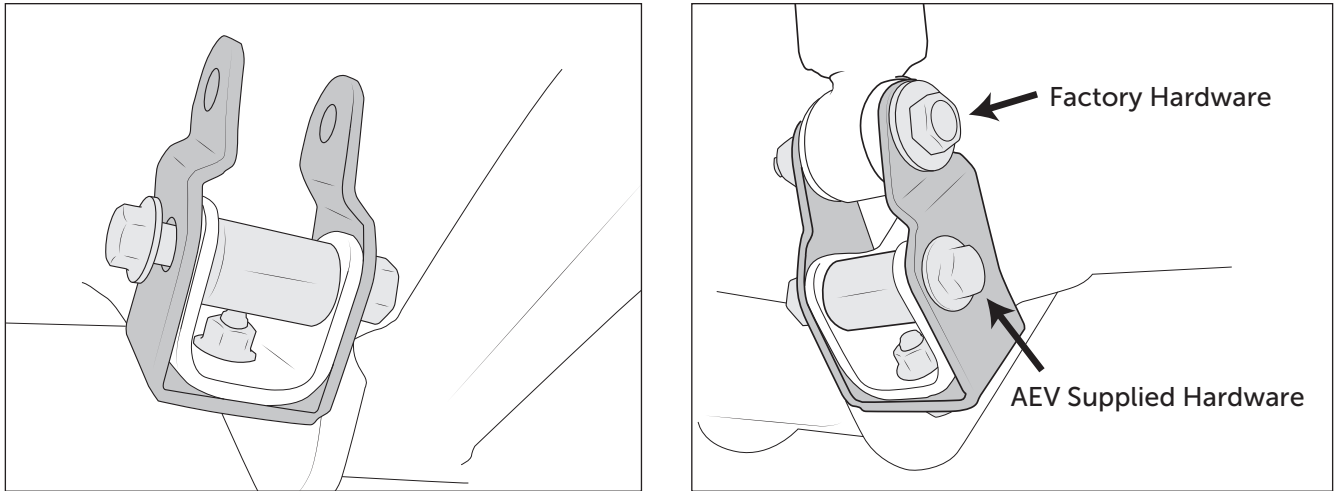

Figure 15
12. Install AEV shock extension brackets as shown, then re-install factory lower shock mount hardware (fig. 15). You may need to pull the shock body downward to reach the shock bracket. This is normal due to internal shock bumpers. NOTE: Due to variation in factory brackets, you may be required to enlarge the bottom hole slightly using a drill bit or round file.